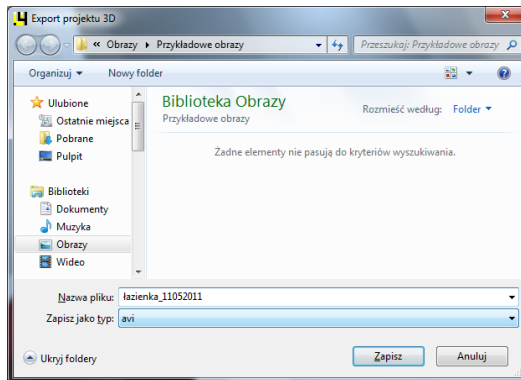

Fig. 313 – saving an AVI video to the disk
- enter the name of the file and select the destination location for it (Fig. 313);